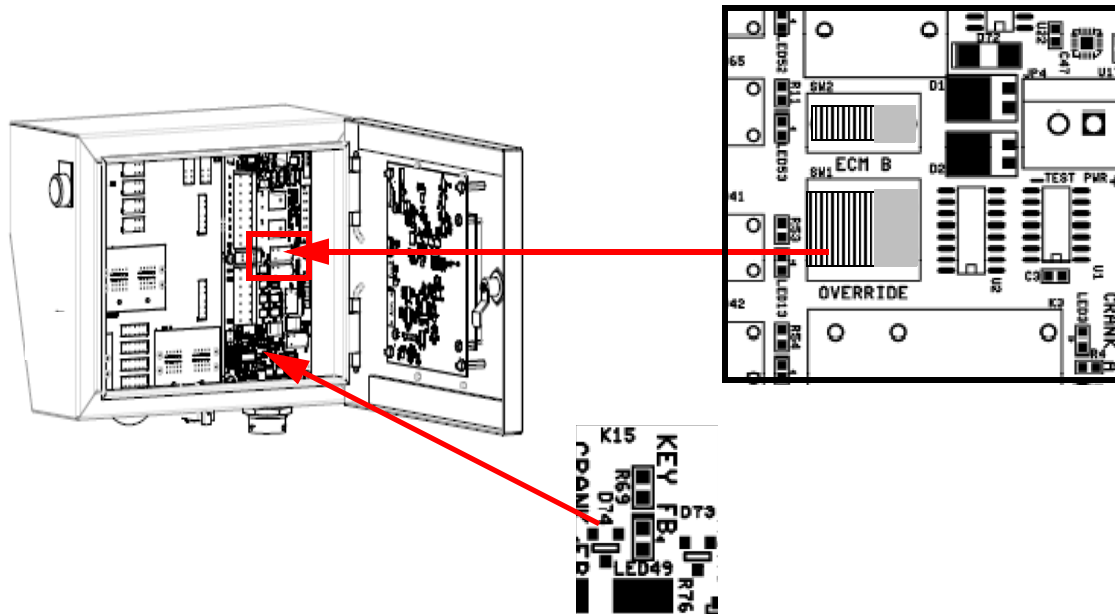

Figure 4-3 FPDP override switch
- As shown in Figure 4-3, open the FPDP panel door and slide the key switch override to the “RIGHT” position. Verify that LED 49 - KEY FB (key feedback) switch is lit.